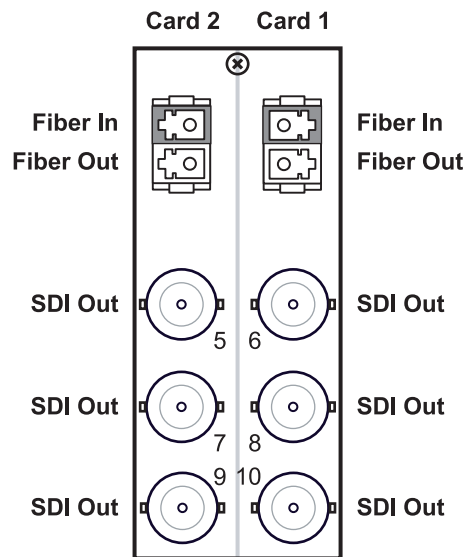

Figure 2.5 Cable Connections for the 8320AR-045 Rear Module
- **8320AR-045** (R2S-6605) Split Rear Module — Each FSR-6605 occupies one slot and provides one optical input, two optical outputs, and two SDI outputs. Refer to **Figure 2.5**.